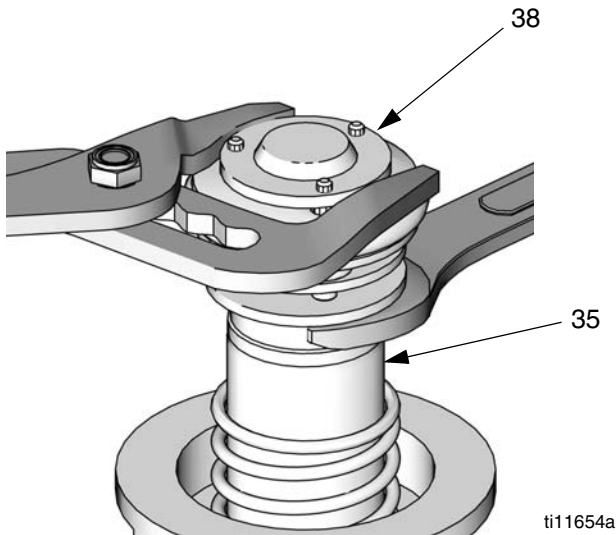
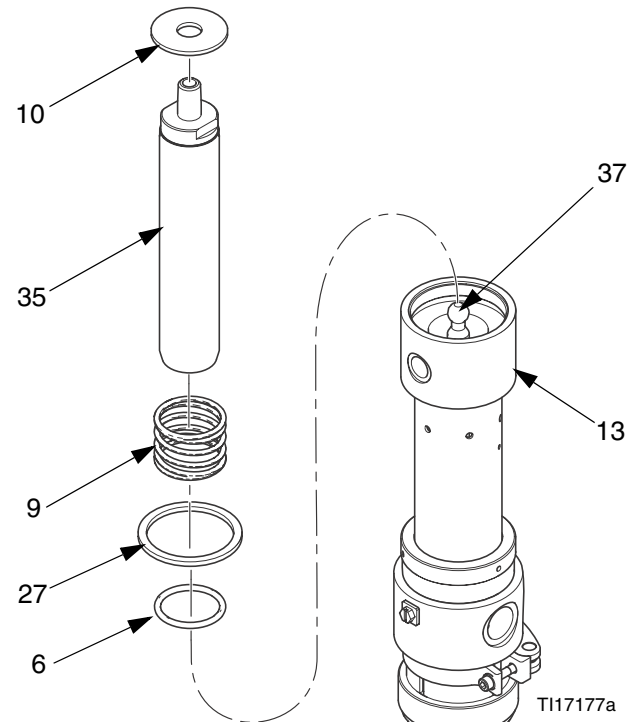

FIG. 11
FIG. 12
3. Use a pliers on the top plate of the air valve piston (38) and a wrench on the piston rod (35) to unscrew the air valve piston from the piston rod. See FIG. 11.
4. Remove washer (10), lower spring (9), and gasket (11). Inspect for wear or damage and replace as necessary. See FIG. 12.
5. Disconnect the piston rod (35) from the pump connecting rod (37) and pull the piston rod out of the air motor base (13). Remove o-ring (6). Inspect o-ring (6) and replace if necessary.
1. Reinstall o-ring (6). Reconnect the piston rod (35) and the pump connecting rod (37). See FIG. 12.
2. Reinstall the gasket (11), spring (9), and washer (10). Reassemble the piston (38). Apply thread sealant to the threads of the piston rod (35) and carefully screw the piston (38) onto the rod. See FIG. 11 and FIG. 12.